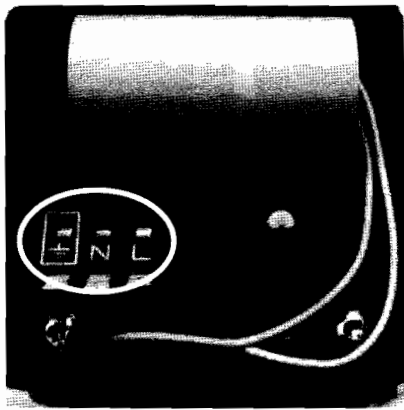

Figure 34
- ☐ Pull off the motor, remove the cover and disconnect the electrical leads from cable box figure 34.